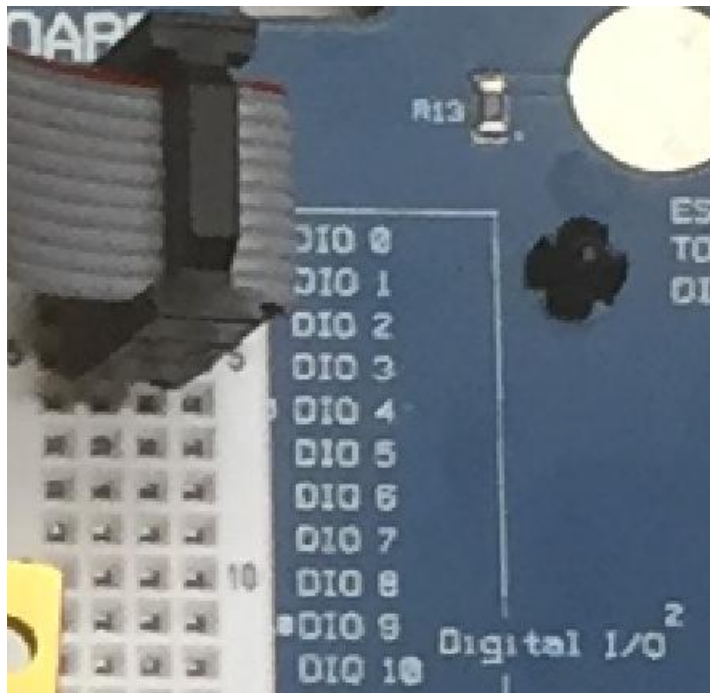

Figure 22 Gate signal input from Digital I/O port 0, DIO 0-3
6. Connect the flat cable (4-pole) related to gate signals to the digital I/O-port 0, DIO 0-3 in the upper right of ELVIS prototyping board (see Figure 22). The red wire in the flat cable shall be facing to the top (DIO 0) on the ELVIS board.